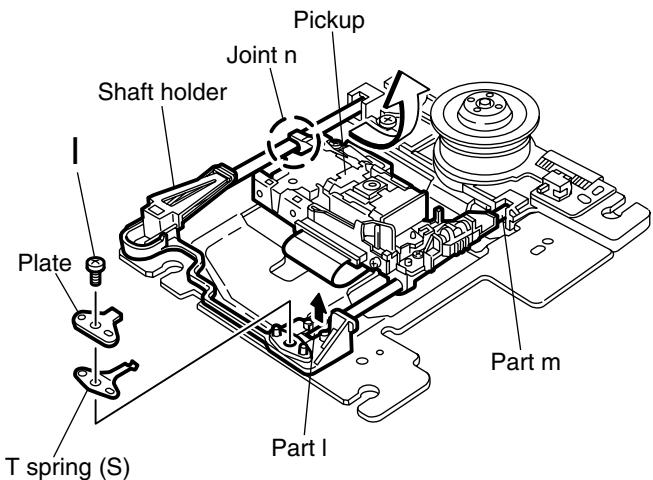

Fig.16
■ Removing the pickup (See Fig.16 and 17)
1. Remove the screw I attaching the T spring (S) and the shaft holder. Remove also the plate.